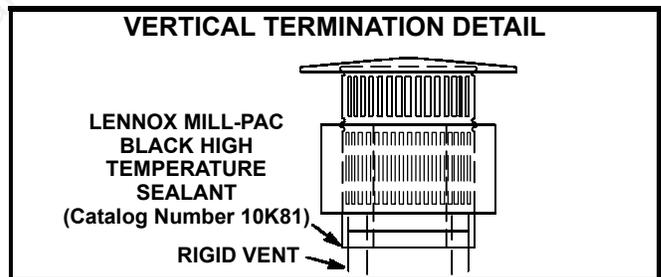
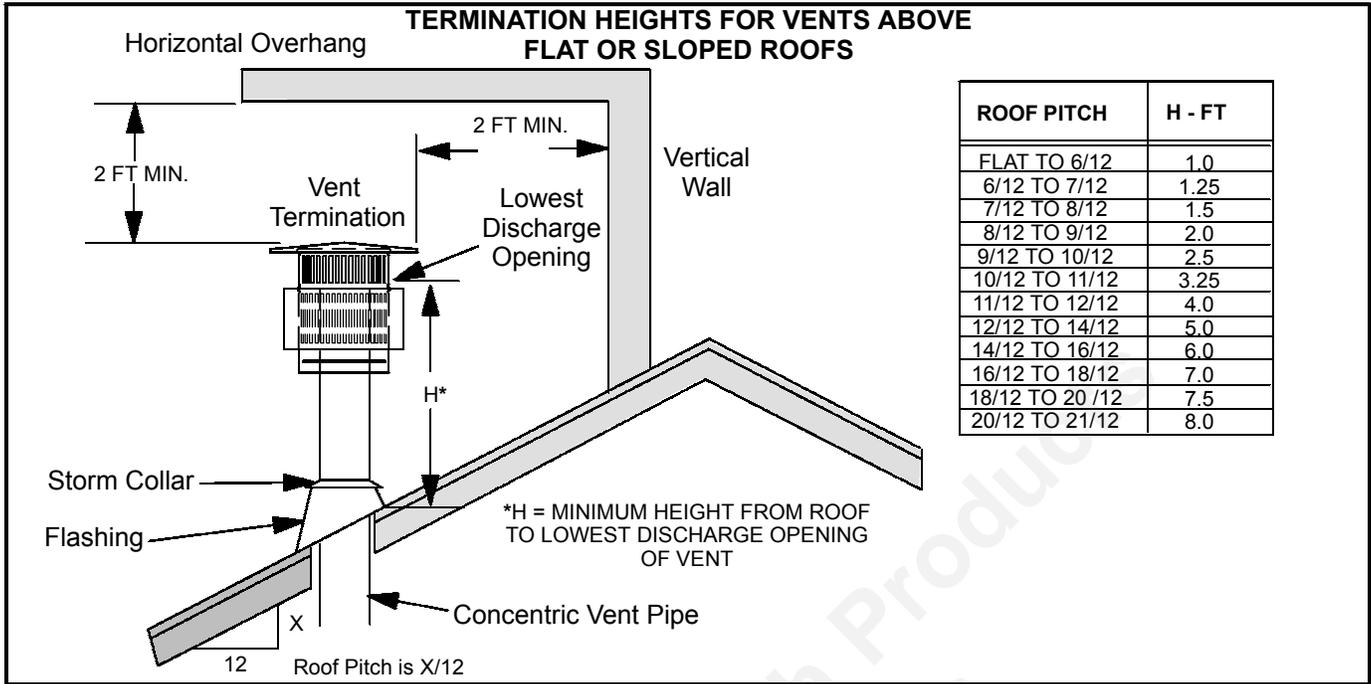

FIGURE 15
FIGURE 22
Figure 15 provides a detail of the vertical vent termination. Figure 22 shows the minimum vent termination height requirements above a flat or sloped roof.
- 4 - Install the remaining vent sections and the vent termination. See figure 22 for minimum allowable termination heights above the roof and minimum allowable clearances to obstacles above the roof.